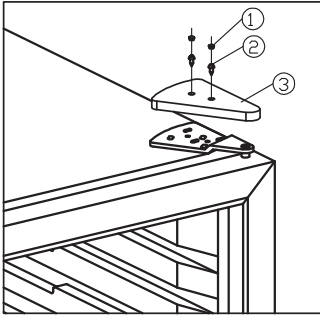

Abb. 7.1
- Pull out the screw covers and unscrew the decorative cover. See fig. 7.1